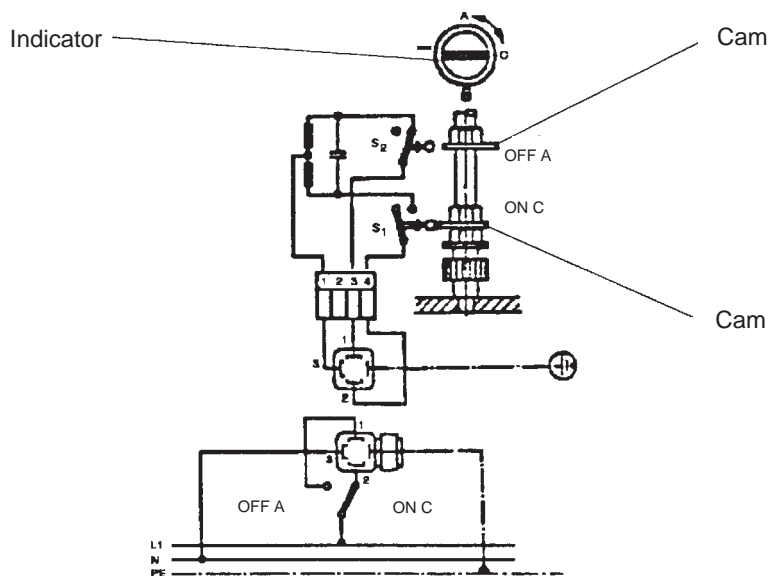

Figure 2.
- turn the stepping motor hand control shaft, figure 2, until the door is at the desired stopping position (fully closed)
- turn the stepping motor hand control device, figure 2, until the door is at the desired stopping position (fully open)